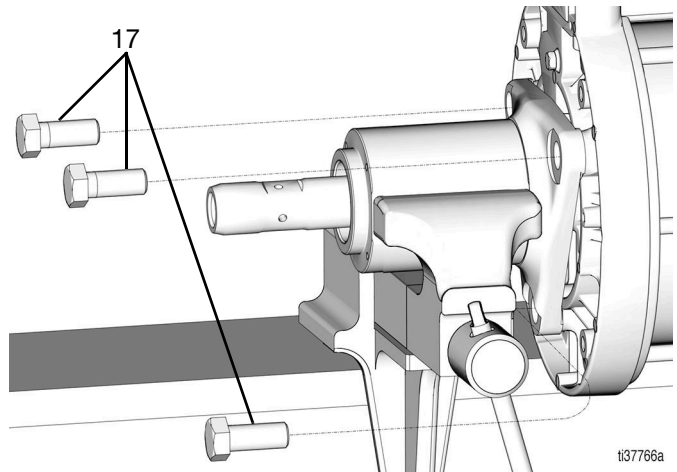

FIG. 23
7. Replace and hand-tighten the outlet housing adapter screws (17) (FIG. 23).